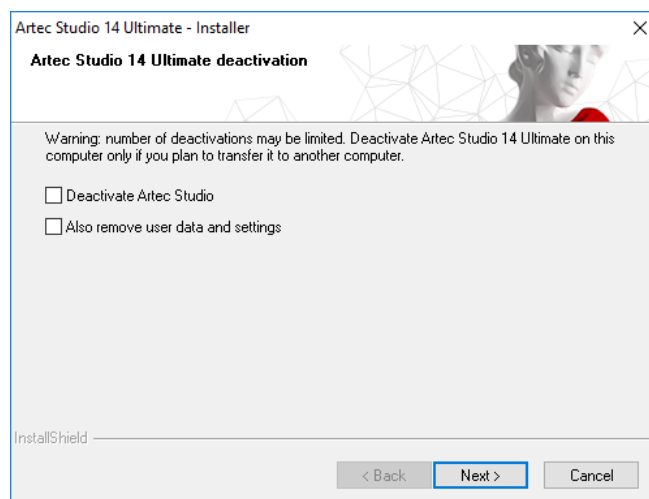

Figure 33: Deactivation of Artec Studio.
3. The dialog shown in Figure 33 will appear. Select the *I understand. Deactivate Artec Studio* checkbox.